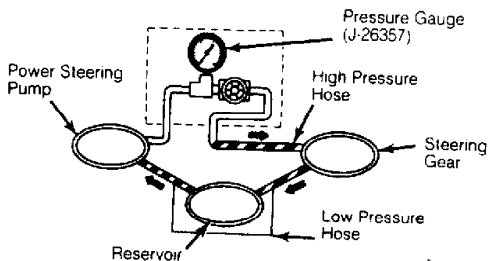

Fig. 2: Installing Pressure Gauge
1) Disconnect high pressure hose at power steering pump. Install Pressure Gauge (J-26357) between power steering pump and steering gear. See Fig. 2. Open valve and bleed air from system. See HYDRAULIC SYSTEM BLEEDING under LUBRICATION. Check fluid level.